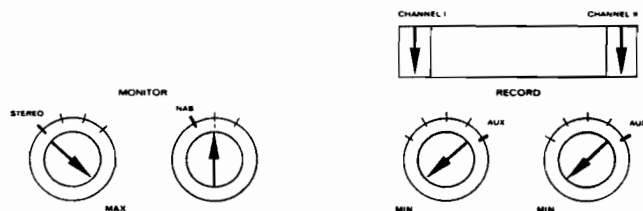

Fig. 6.4–62
– Set controls per fig. 6.4 –62